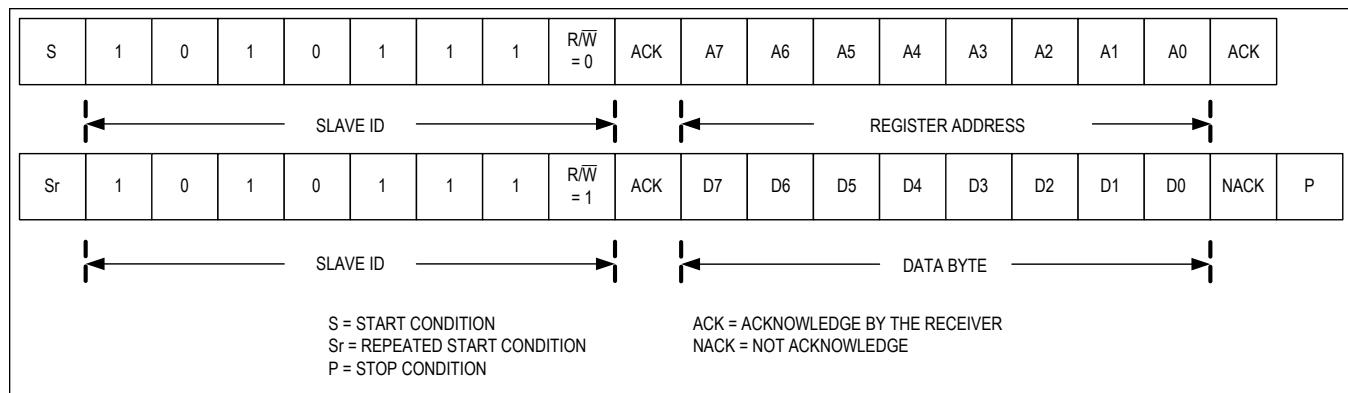

Figure 10. Reading one byte of data from MAX30101
For the read operation, two I2C operations must be performed. First, the slave ID byte is sent followed by the I2C register that you wish to read. Then a REPEAT START (Sr) condition is sent, followed by the read slave ID. The MAX30101 then begins sending data beginning with the register selected in the first operation. The read pointer increments automatically, so the MAX30101 continues sending data from additional registers in sequential order until a STOP (P) condition is received. The exception to this is the FIFO\_DATA register, at which the read pointer no longer increments when reading additional bytes. To read the next register after FIFO\_DATA, an I2C write command is necessary to change the location of the read pointer. Figure 10 show the process of reading one byte or multiple bytes of data. An initial write operation is required to send the read register address.